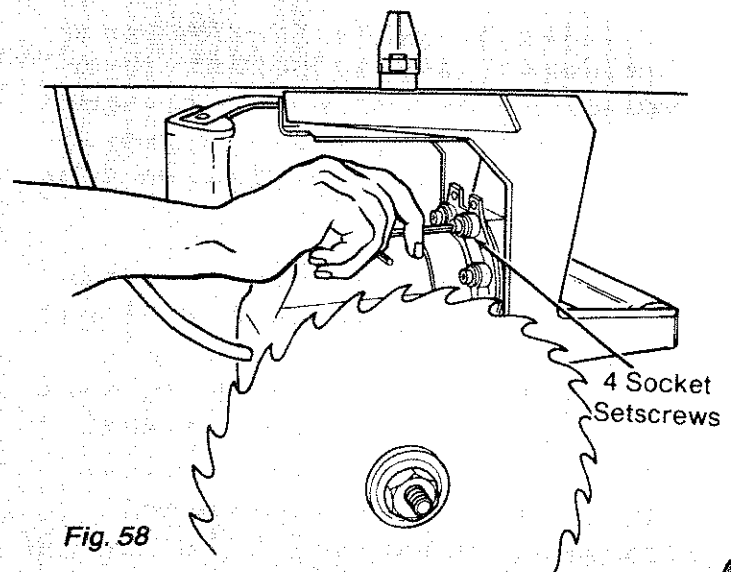

Fig. 58
9. Loosen the four screws behind the *yoke* using a 3/16 inch hex-L wrench. (Figure 58)